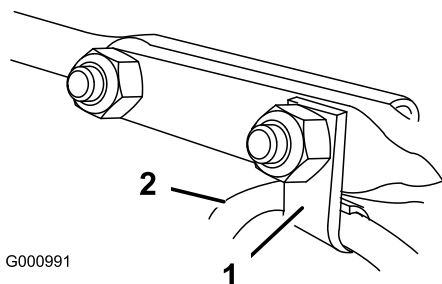

Figure 12
6. Insert the cable clip that supports the deflector cable onto the forward carriage bolt, and secure the carriage bolts with the locknuts from the loose-parts bag (Figure 12).